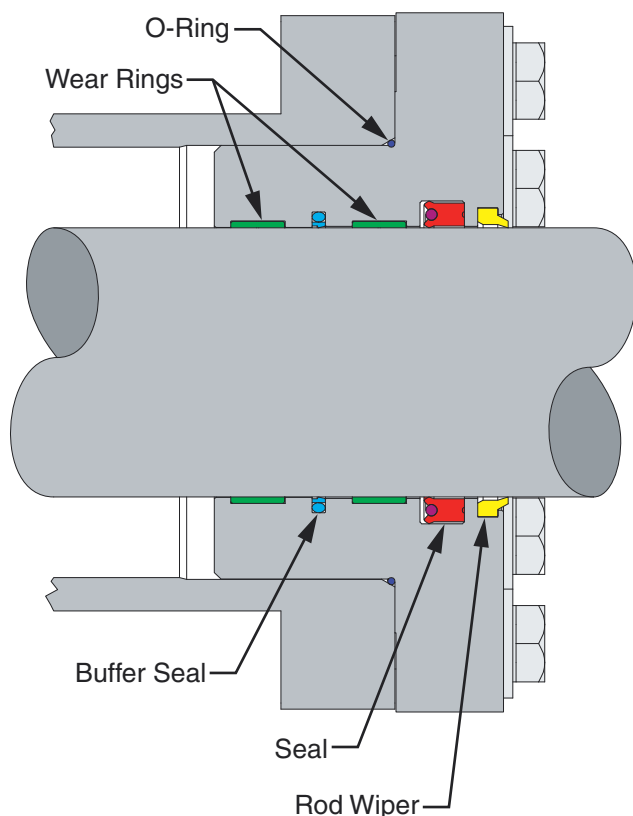
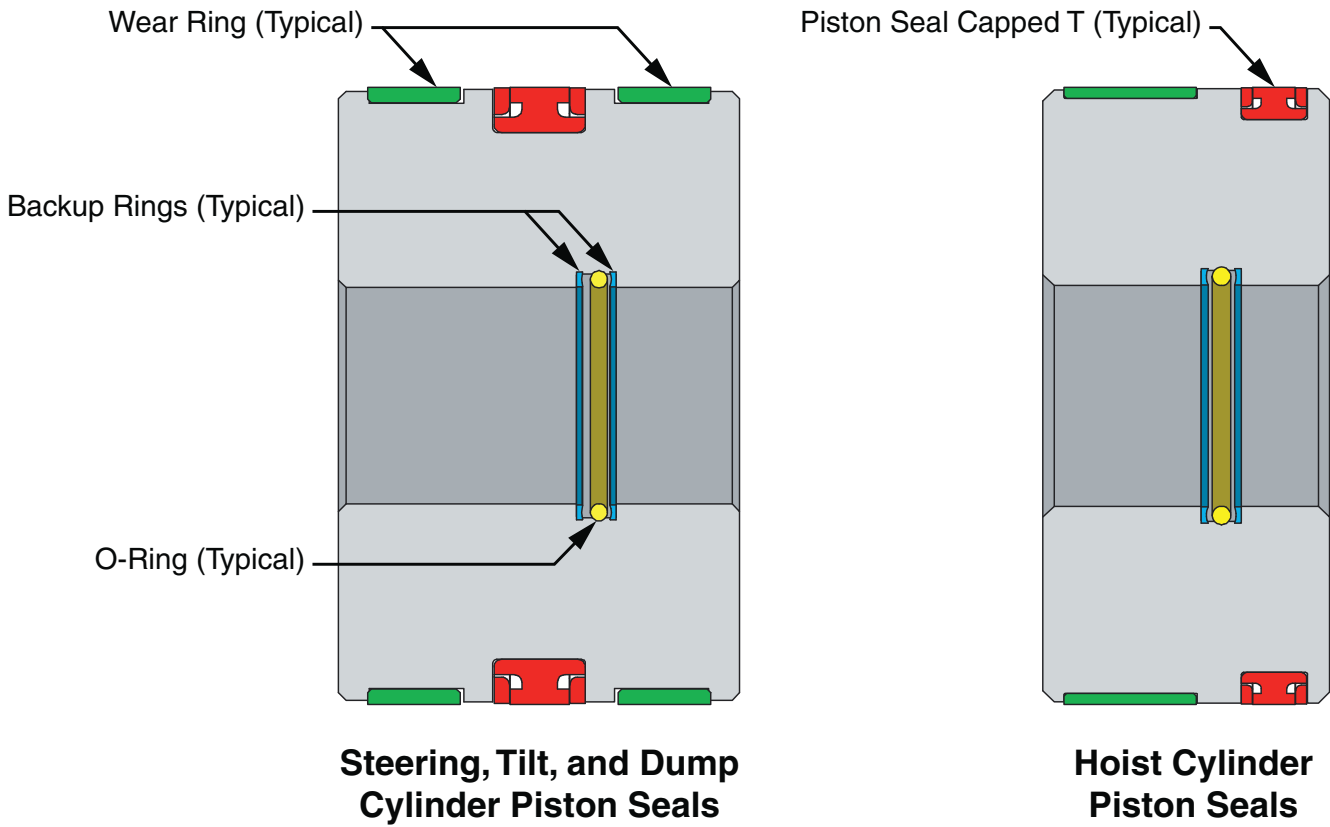

Figure 2 Typical Packing Gland Seals
Figure 3 Typical Piston Seals. Your cylinder may vary...consult your parts manual.
3. Refer to Figure 2 and Figure 3 for typical seal orientations. Note that the seals on your cylinder may vary. Refer to the illustration in your parts manual for details.